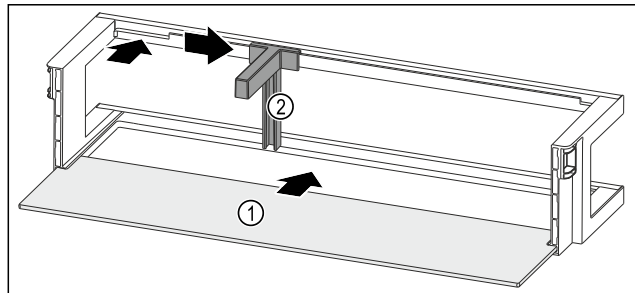

Fig. 264 Door rack with shelf
- ▶ Push the shelf Fig. 264 (1) into the side recesses.
- ▶ Insert the bottle holder Fig. 264 (2) in the recess.
- ▶ Push the bottle holder Fig. 264 (2) to the desired position to the side.